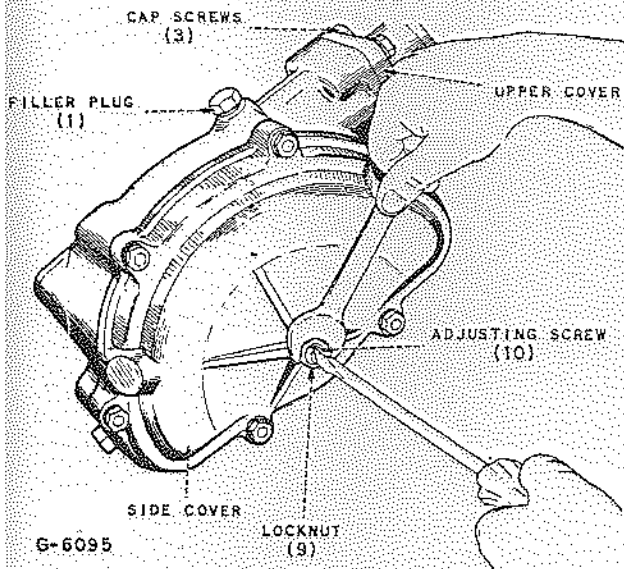

Fig. 3 - Illustrates location of Adjusting Screw and Locknut
- (a) Before making this adjustment loosen the housing side cover adjusting screw (9, 10) to free the studs in the cam groove (Fig. 3).
- (d) Tighten side cover adjusting screw (10), Fig. 3, until a very light drag is felt through the mid-position high range when turning steering wheel slowly from extreme to extreme position. If this slight drag cannot be obtained by adjustments 1 and 2, the cam is probably worn.
- (f) When proper adjustment has been made tighten lock nut (9) and then give gear a final test.